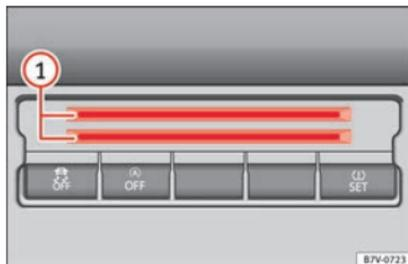

Fig. 180 Centre console, lower section: card compartment
To the bottom of the centre console there is a compartment » **Fig. 180** ① for coins, cards, car park tickets and similar items.